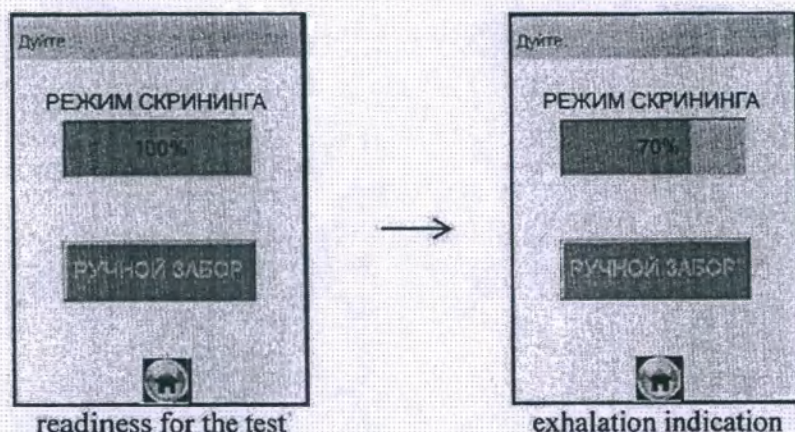

Figure 23 – Screening mode
A message indicating that you are ready for the test will appear on the touch screen (Figure 23, left).
2.12.6 If the subject provides the required flow of exhaled air, a reference sound signal sounds during exhalation, and the remaining exhalation time as a percentage is shown on the exhalation duration indicator (Figure 23, right). It is advisable to stop exhalation at the end of the reference sound signal. The analyzer will automatically take a sample of exhaled air from the funnel mouthpiece.